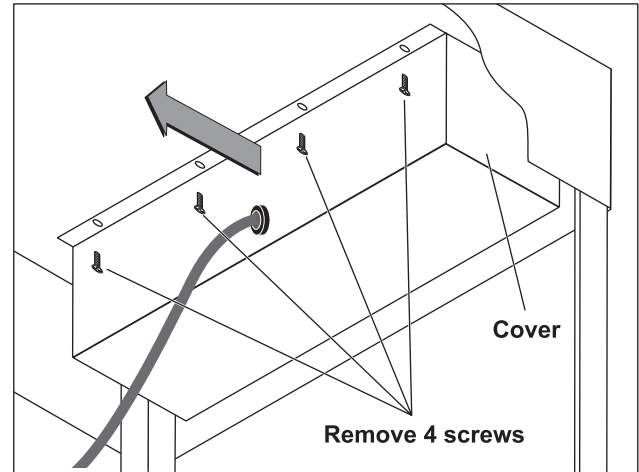

Figure 2. Removing bottom cover
2. Remove the screws that hold the bottom cover (see figure 2) in place.
4. Slide the bottom cover toward the back of the unit and lift it out as depicted in figure 2.
3. **E, EP and ASI models:** Slide the bottom cover toward the back of the unit and lift it out as depicted in figure 2.
2. Remove the screws that hold the bottom cover in place (see figure 2).
3. Slide the bottom cover toward the back of the unit and lift it out as depicted in figure 2.